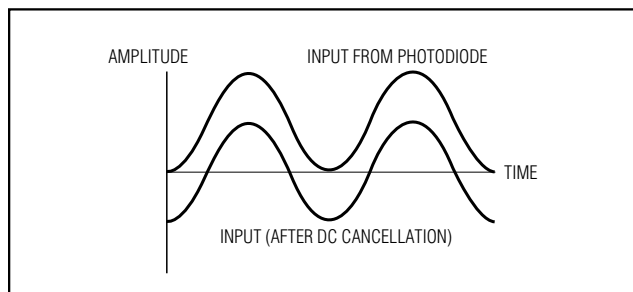

Figure 3. DC Cancellation Effect on Input
The direct-current (DC) cancellation circuit uses low-frequency feedback to remove the DC component of the input signal (Figure 3). This feature centers the input signal within the transimpedance amplifier's linear range, thereby reducing pulse-width distortion caused by large input signals. Pulse-width distortion in small signals will not be corrected.